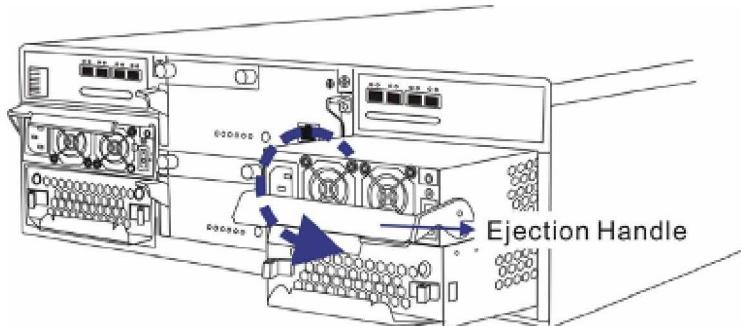

Figure 5-23: Pressing Down the PSU Handle
Step 4. Remove the *PSU module* by pressing down the ejection handle found on the top of the PSU. (See *Figure 5-23*) This will dislodge the PSU module from the subsystem.